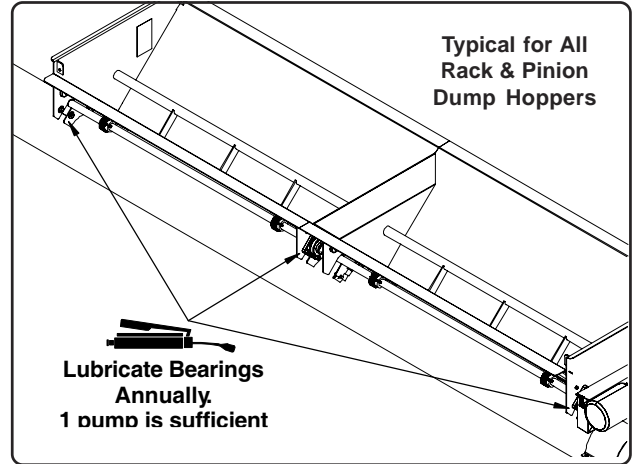
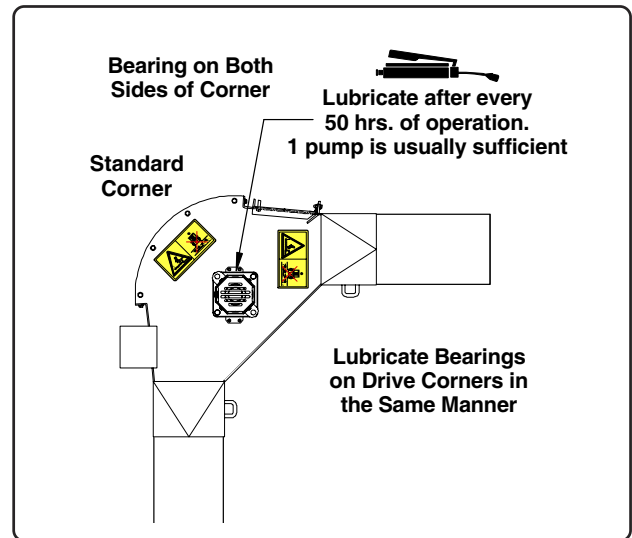
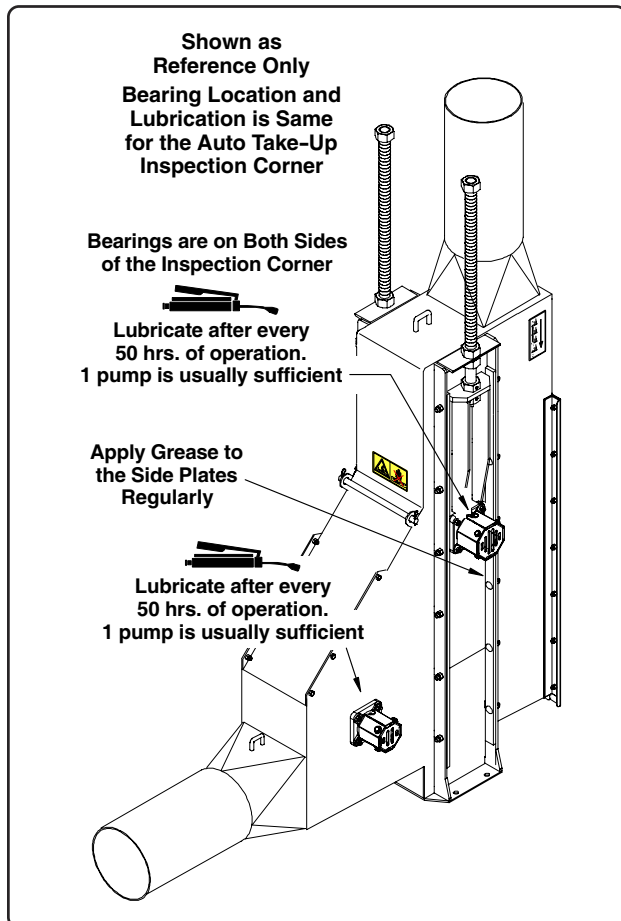
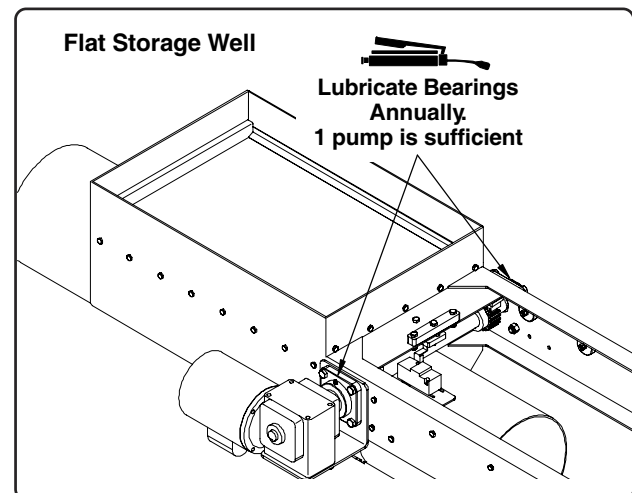

Fig. 4
Fig. 5
Fig. 3
Fig. 6
These bearings are self-aligning, sealed ball bearings which have been packed at the factory. They should be lubricated at approximately **fifty (50) hour intervals** with an SAE multipurpose type grease (See Fig. 3, Fig. 4, Fig. 5 & Fig. 6).